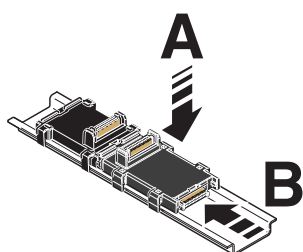

Figure 4-5 Mounting the bus base modules
- First install the bus base module for the controller and then all bus base modules necessary for the Axioline F station on the DIN rail (A in Figure 4-5).
- Push each subsequent bus base module into the connection of the previous bus base module (B in Figure 4-5).